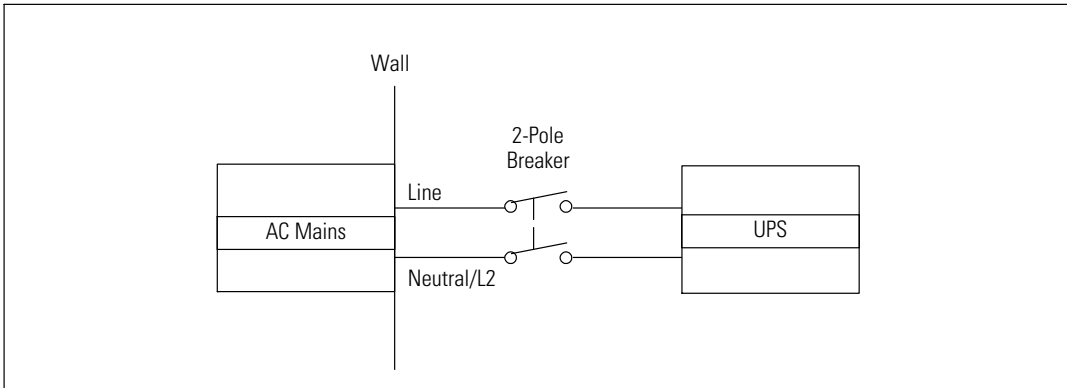

Figure 19. Circuit Breaker Diagram
- Protection device requires a two-pole disconnection device between the UPS input and the mains (see Figure 19)